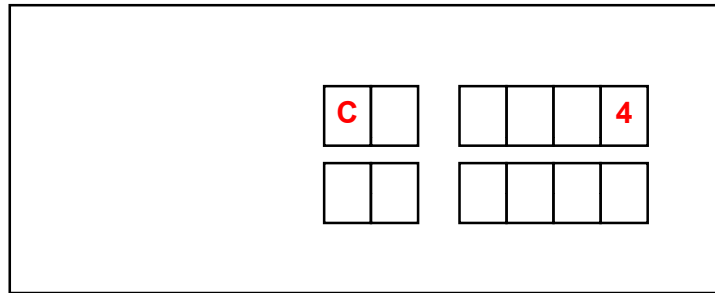

Figure 5.
- Press [RE] – panel displays as per Figure 5.